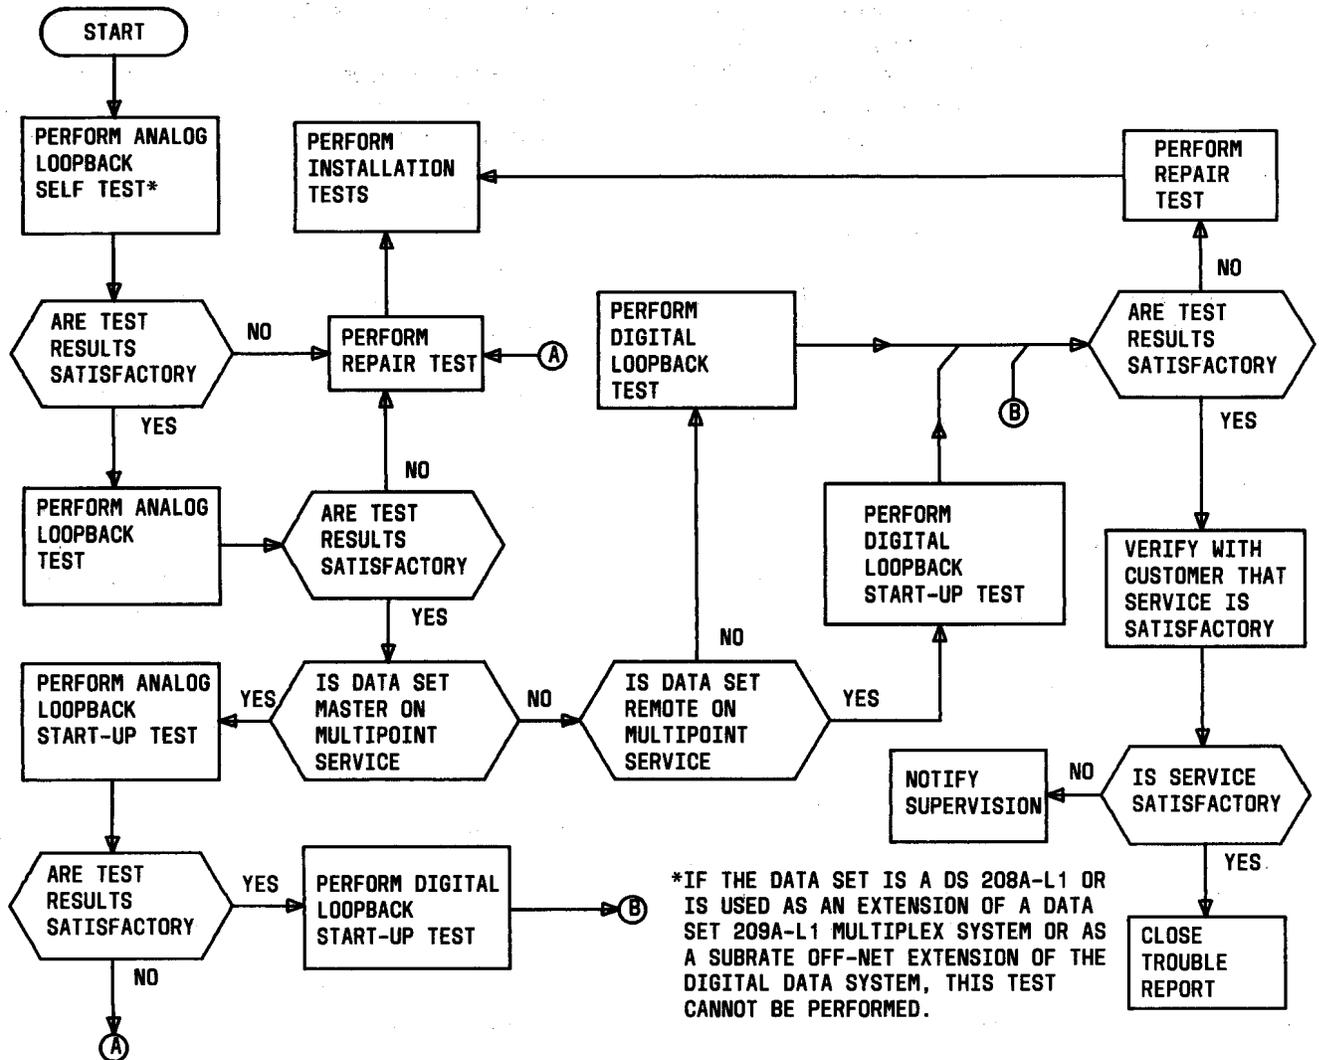

Fig. 4—Maintenance Test Sequence
3.05 The sequence in which tests are to be performed by the telco employee at the data station is shown in Fig. 4. If the trouble is isolated to the data set, the repair test procedures in paragraphs 4.35 and 4.36 are to be performed to isolate the trouble to a circuit pack in the data set.